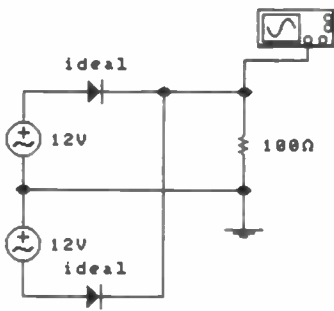

Fig. 3.29 Bi-phase rectifier circuit for Assignment 3.4.
1. Connect the bi-phase rectifier circuit shown in Fig. 3.29. The 100Ω resistor is used to simulate the load that would normally be connected to the power supply. Note that this is a lower value of resistance (and thus a more severe load) than we used for the half-wave rectifier circuit. Note also that the transformer secondary windings are represented by two 12V 50Hz a.c. voltage sources.